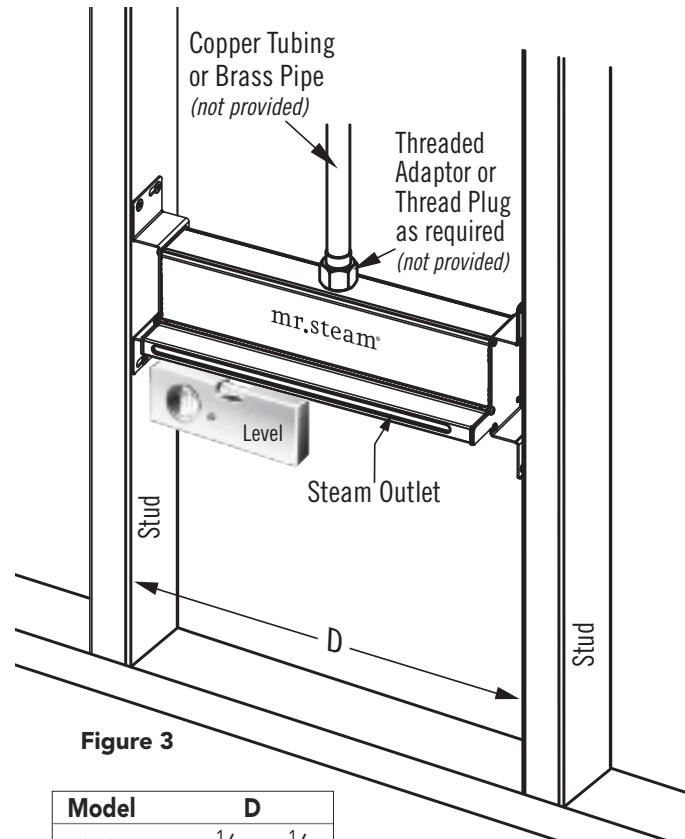

Figure 3
**STEP 4.** Use a level to ensure the steam head is level (see Fig. 3) and the steam head face is flush or extends 1/8" from the finished wall surface. Install the four screws in the mounting holes to secure the steam head to the studs.